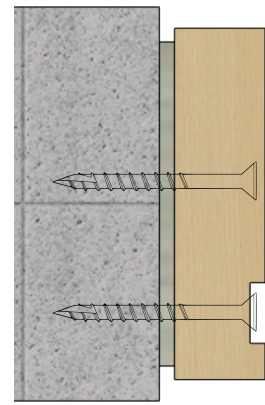
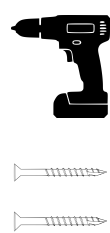

Fig.16
Fig.17
Step 3. Insert RCD Pre-assembled Doorset into the Prepared Opening. Set and secure one jamb leg plumb. Shim and fasten the opposite leg to achieve proper alignment. Screw placements as Fig.16 and Fig.17.
Fixing screw positions shall be a minimum of 150 mm from the top and bottom of the inside frame, with a maximum spacing of 400 mm between screw centres (Fig.16, Fig.17, Fig.32)